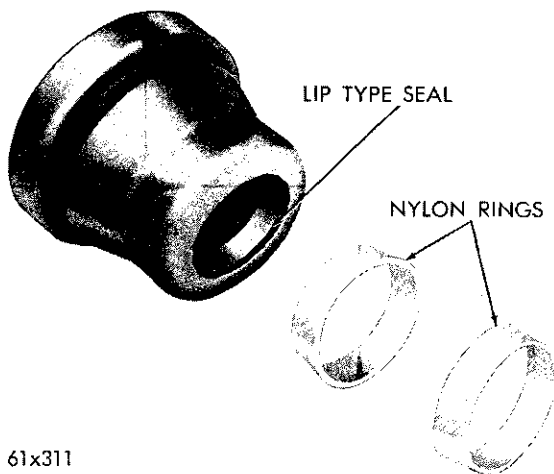
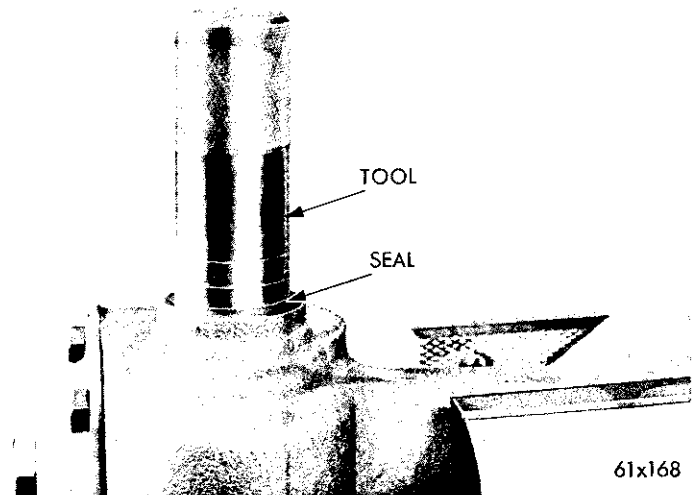

Fig. 5—Nylon Rings and Lip Type Seal (Exploded View)
Fig. 8—Installing Worm Shaft Oil Seal
NOTE: A rubber lip type seal is positioned between the upper hub of the flexible coupling and the jacket tube. The outer groove of seal must be firmly installed on jacket tube and the two nylon rings (Fig. 5) and lip of the seal must be well lubricated with a wheel bearing grease.
(3) Drive oil seal into housing bore with Tool C-3821 (Fig. 8).
(4) Install and align steering gear as outlined under "Steering Gear Installation and Alignment."
(1) Inspect all parts for wear and check the rubber seal for deterioration. Replace bearing if there has been any indication of binding before removal of column tube.
(2) Pack the new upper bearing with short fiber grease and with the radius end of the bearing (inside diameter) facing downward, press the bearing squarely into the jacket tube until it stops against the bearing supporting lugs in the jacket tube, using a socket of the proper size, or a similar tool that will exert pressure on the outer race only.
(3) Place the large washer against the top side of the bearing outer race. Bend the three bearing retaining tabs down to an angle of 45 degrees (Fig. 8). Do not exceed the 45 degrees since this may cause internal damage to the bearing.
(4) Slide the jacket tube rubber seal and nylon rings on the steering column shaft.
(5) Install the direction indicator cancelling dog on column tube.
(6) Install the jacket bearing snap ring in the steering column shaft lower groove; install a new snap ring if old ring will not fully seat in the groove.
(7) Install spring and tapered spacer (tapered end up).
(8) Carefully install the steering column shaft assembly into the column jacket tube.
(9) Support the column tube lower hub on a block of wood, place the upper snap ring on the steering column shaft, pull down on the jacket tube to compress the bearing spacer spring sufficiently to expose the upper groove in the steering gear shaft and install the upper snap ring. **Make sure** snap ring seats fully in shaft groove.
(10) Apply wheel bearing lubricant to the nylon rings and lip of the jacket tube seal and position the seal cup and nylon rings on the jacket tube large diameter of the nylon rings butt and are retained by the recess caused by the seal lip (Fig. 5).
(11) Position the directional switch and install the switch attaching screws. **Be sure** the column jacket does not restrict the switch movement.
(12) Install the directional switch wires and horn wires at the connectors.